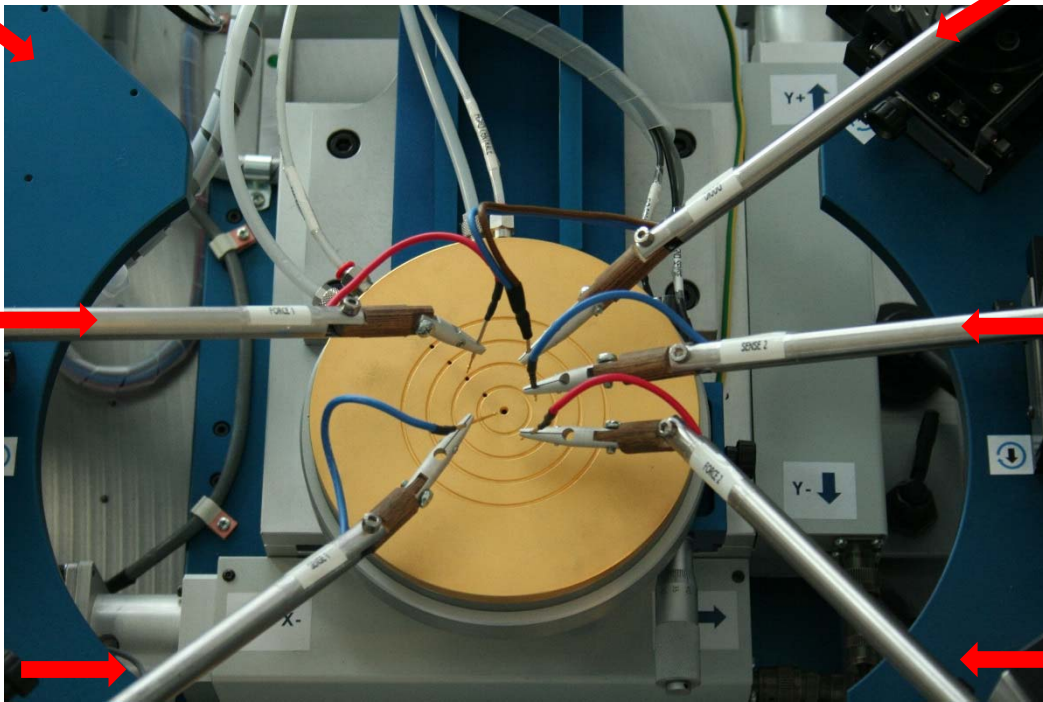

Figure 1 -test needles
- A system consisting of 5 needles for the connection of the active load to the cell. Figure 1 shows the position of the 5 needles with their respective functions: